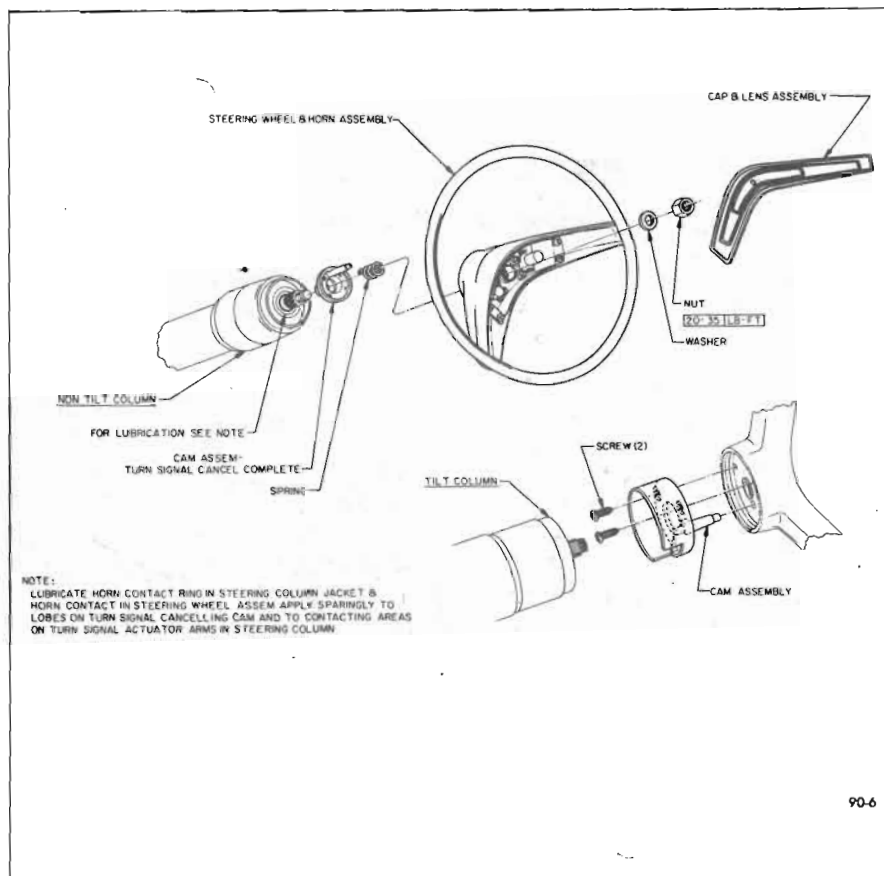

Figure 90-6—45-46-48000 Steering Wheel Assembly
4. On 45-46-48000 Series, remove actuator bar cap, bushing and screw assembly, adapter assembly springs and contact plate. See Figure 90-6.